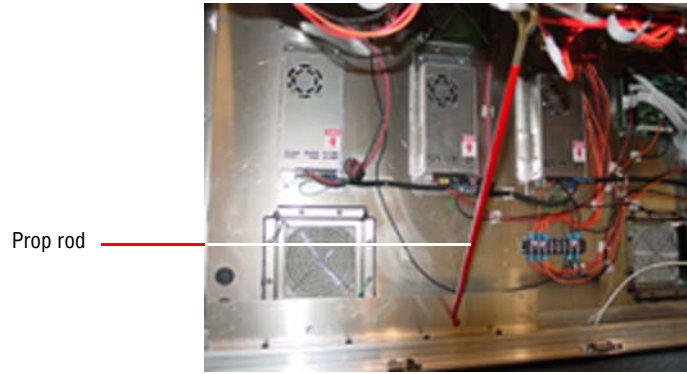

Figure 20: Installing prop rod under LED boards
4. Raise each prop rod for the LED boards and fasten under the LED boards. See Figure 20, “Installing prop rod under LED boards” above.